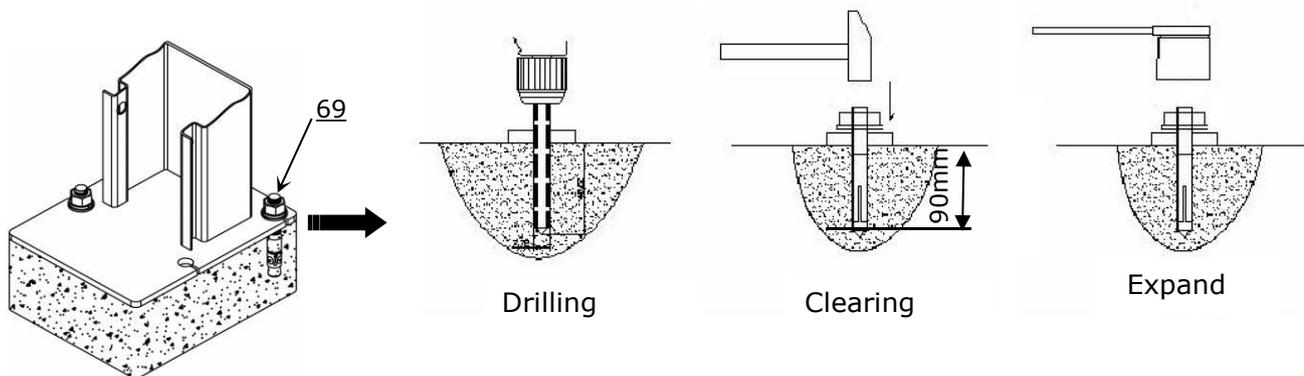

Fig. 32
2. Using the prescribed rotary hammer drill, and drill all the anchor holes and install the anchor bolts. Do not tighten the anchor bolts (See Fig. 32).